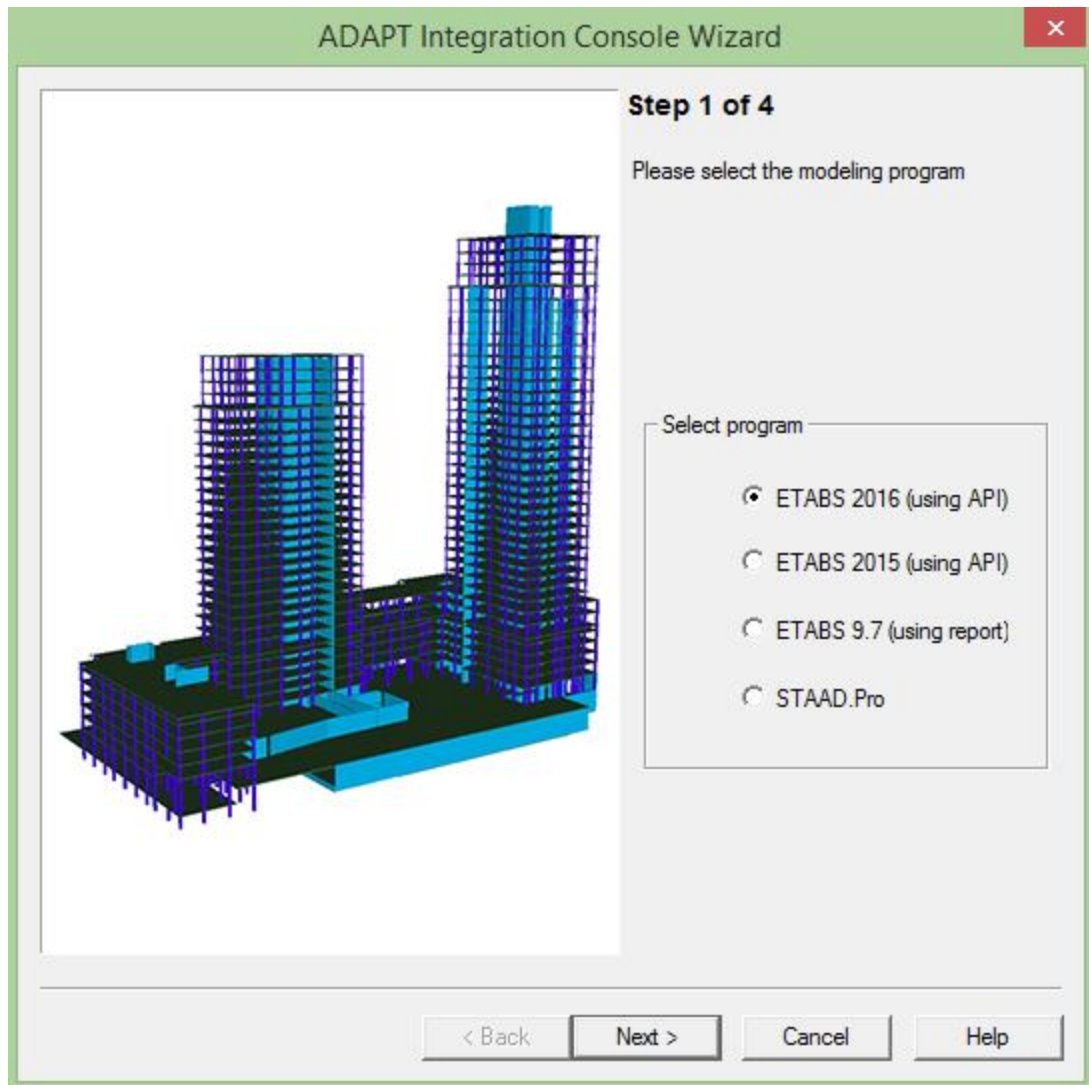

Figure 6 ADAPT Integration Console Wizard
1.2 Importing the ETABS .EDB and .XML Files into the ADAPT-Integration Console (IC) v6
- Open **ADAPT-Integration Console v6**. Ensure that the **ETABS 2016 (using API)** option is checked in the *Select Program* section (**FIGURE 6**). Select *Next*.